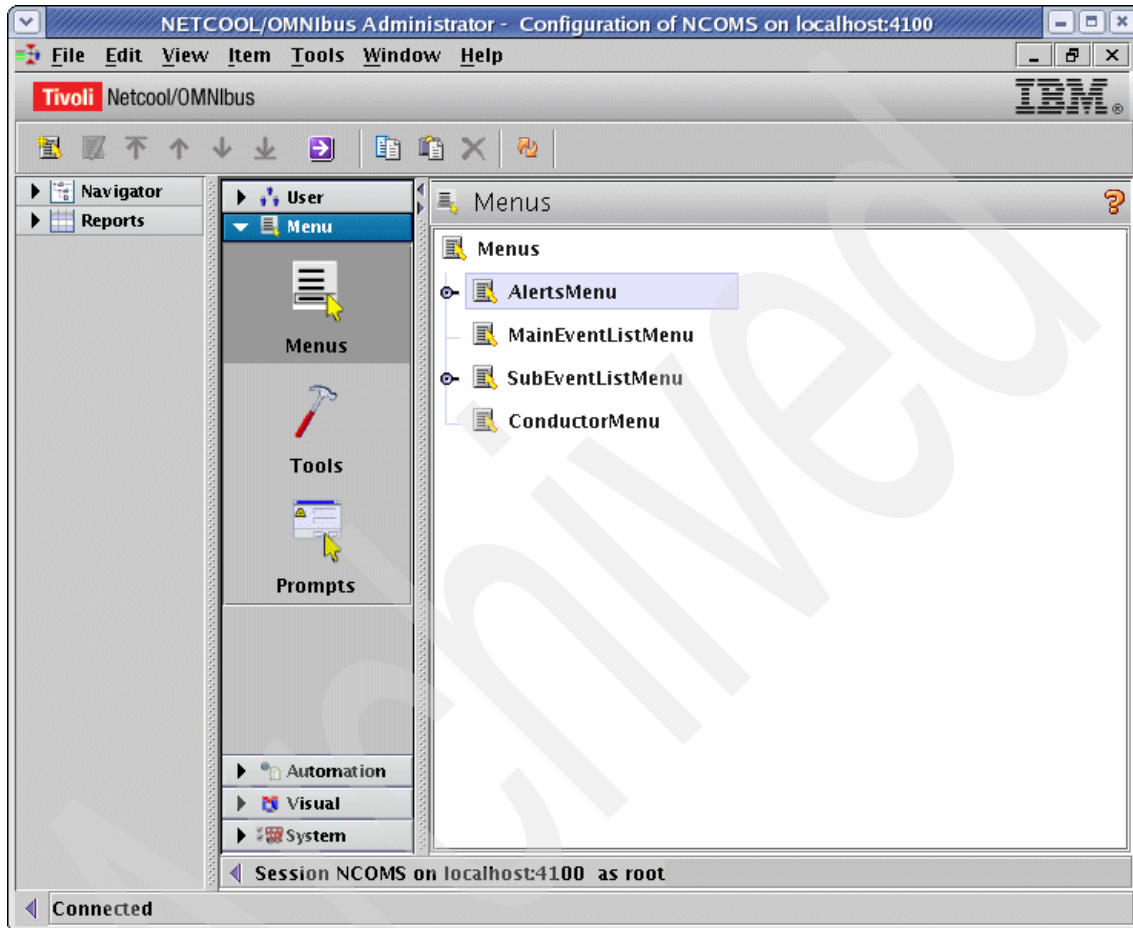

Figure 4-30 Administrator console Menu tab
1. From the Menu tab, select Add New Item () within the Configuration Manager GUI, as shown in Figure 4-30.